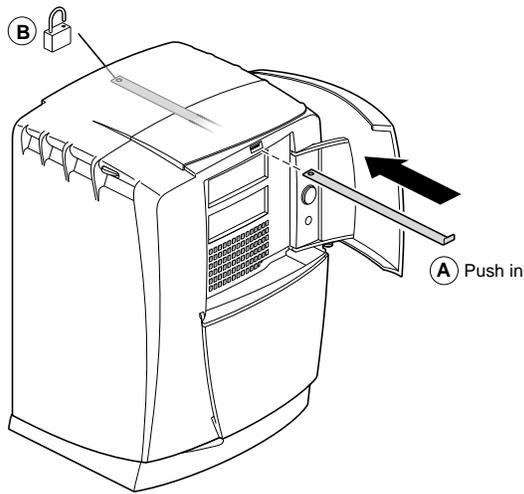

Figure 7-37 Replacing the Lockbar
2. Insert the lockbar into the front of your workstation, with the angled end up (see A in Figure 7-37).
3. Insert and close the lock (B) at the back of the your workstation.